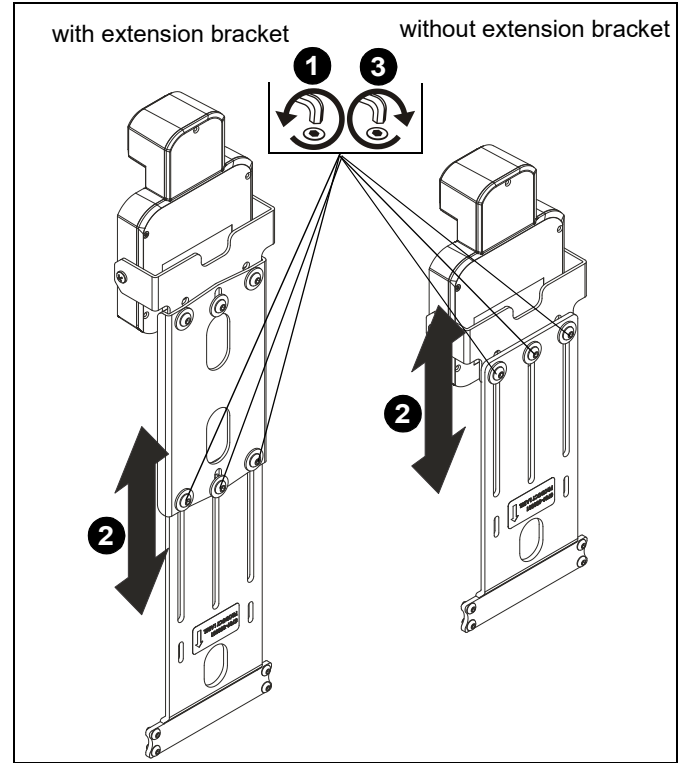

Figure 8
1. Loosen three 1/4-20 x 5/8" button head cap screws (F) holding extension bracket (B) or camera bracket (C) to attachment bracket (A). (See Figure 8)
2. Adjust height of shelf (C) as desired.
3. Tighten three 1/4-20 x 5/8" button head cap screws (F) holding extension bracket (B) or camera bracket (C) to attachment bracket (A). (See Figure 8)